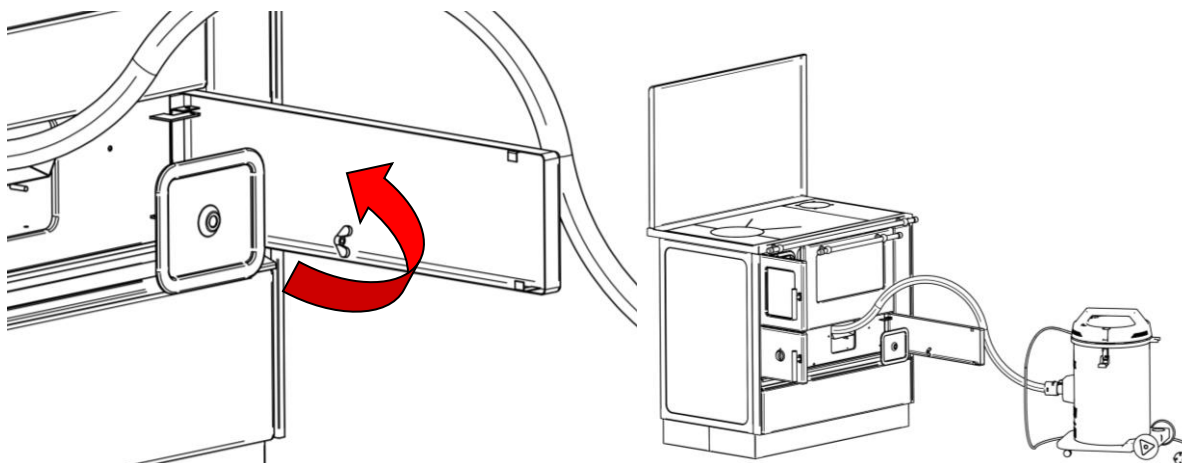

Figure 16
- o Cleaning soot and deposits on the upper part of the oven (area with exhaust gases passing through) is preferable to be done once or twice in the season (Figure 16).